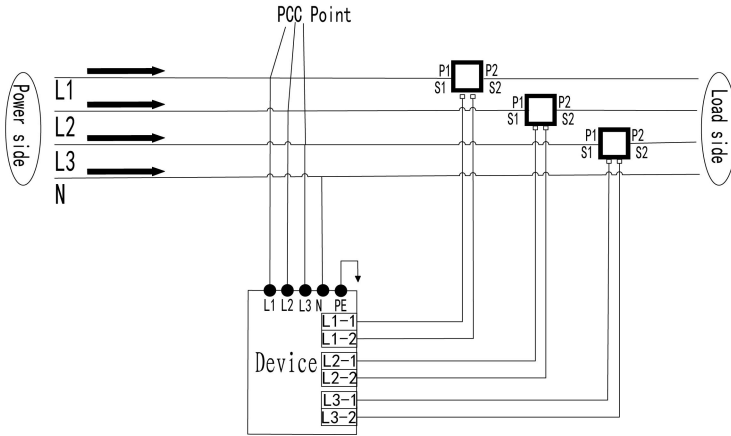

Figure 3-3A
- Adopt the correct power distribution method (see Figure 3-3A and Figure 3-3B) to ensure the safety of AHF and user device; The main circuit wiring mode is shown in the figure. The wiring should ensure that the phase sequence of the power grid is consistent with the phase sequence of the device. Otherwise, the device may not start normally. The installation direction of the transformer must be close to the load as shown on the P2 surface. The S1 and S2 of each transformer must correspond to the AHF port with the corresponding label. It is strictly forbidden to open the secondary side.(If the circuit is open, it may cause the transformer to burn).